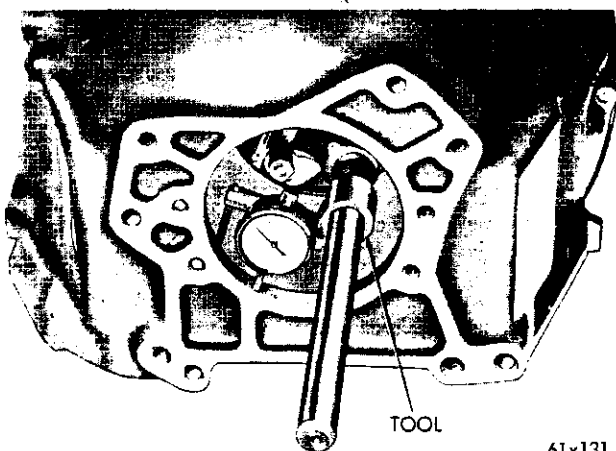

Fig. 7—Measuring Clutch Housing Bore
(2) With the flywheel turning Tool C-771, crank the engine while noting dial indicator needle deflection. Out-of-round of bore must not exceed .008 maximum total indicator reading (See Fig. 7).